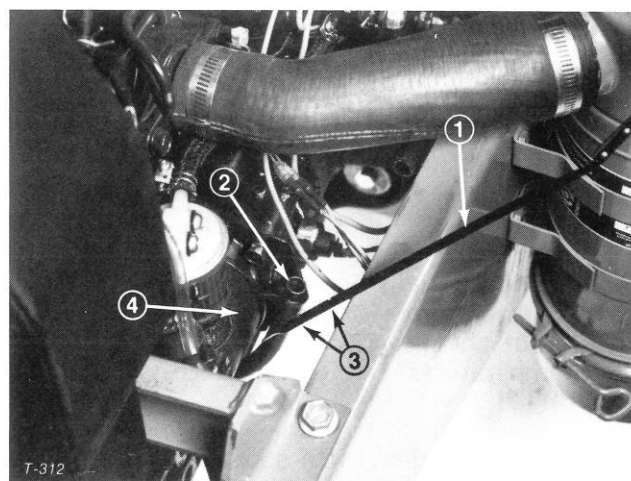
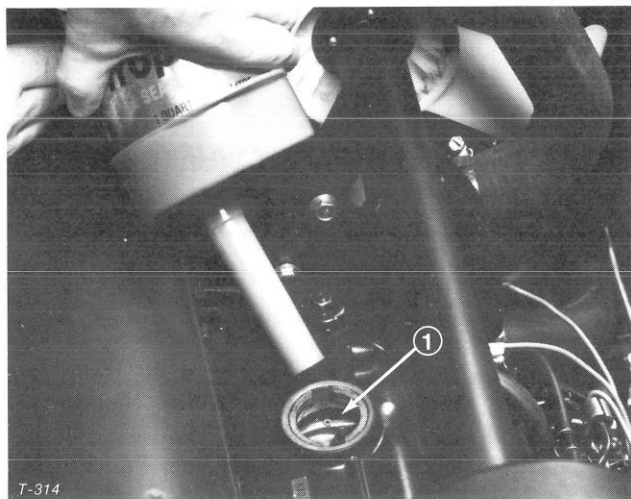

Figure 15
Figure 16
3. Remove dipstick and wipe it with a clean rag (Fig. 15). Push dipstick down into the tube and ensure it is fully seated. Pull dipstick out of the tube and check level of oil. If oil level is low, remove filler cap (Fig. 16) and add enough oil to raise level to top notch on dipstick (Fig. 15). DO NOT OVERFILL.